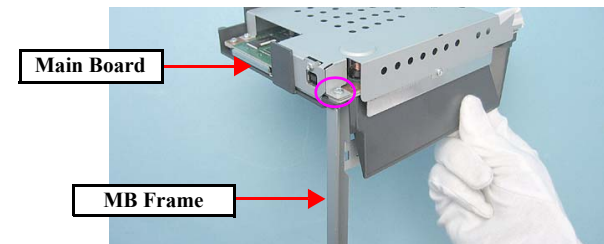

Figure 4-59. Removing the MB Frame
3. Install the Main Board Unit to the MB Frame. (Fig.4-59)